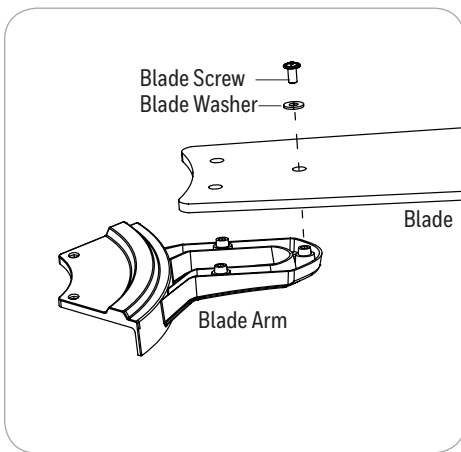

Figure 5.4
- Partially insert three blade screws, along with the blade washers, through the blade and into the blade arm. Tighten each blade screw, starting with the one in the middle. Repeat this step for the remaining blades and blade arms (Figure 5.4).